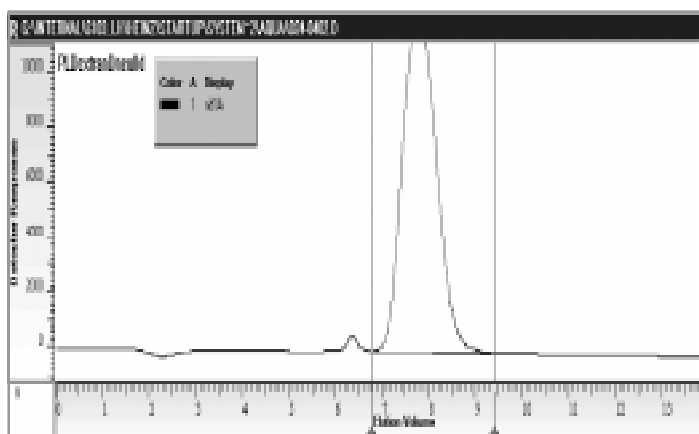

Fig. 11:
Baseline setting as shown in figure 11 has the drawback of less flexibility for setting the integration limits in the Elugram (E) window (refer to part b) but is often the more practical approach.
In the Elugram window the baseline corrected raw data are presented. In the Elugram window the integration limits for calculation of the molecular weight distribution and the molecular weight averages have to be set with the red markers. Position them exactly before the start and exactly at the end of the peak. You will have to zoom in for better seeing this. This step is typically not needed if you set the baseline as shown in figure 11.
- The start and end marks for the polymer peak are placed exactly where the peak starts and ends (zoom in several times for better seeing this, refer also to chapter VIII and figure 11)